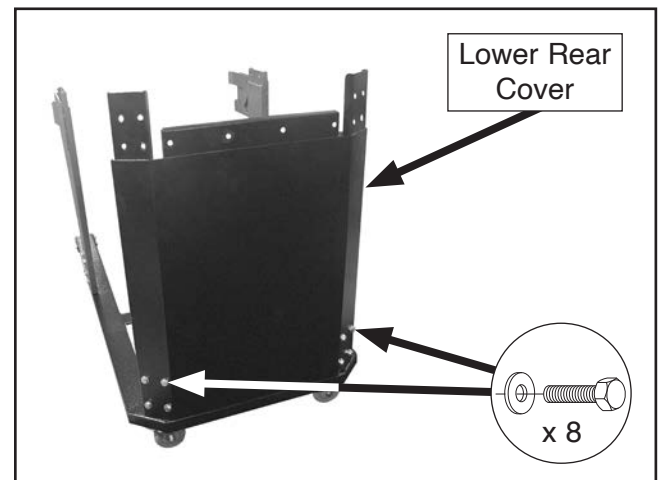

Figure 20. Lower rear cover attached to stand base.
5. Attach lower rear cover to back of stand base with (8) $\frac{5}{16}$ "-18 x $\frac{3}{4}$ " hex bolts and (8) $\frac{5}{16}$ " flat washers (see **Figure 20**).